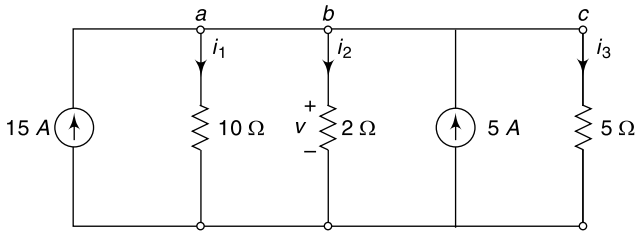

Fig. 4.30 Circuit of Ex. 4.17
4.17 In Fig. 4.30, find v . Also find the magnitudes and direction of the unknown currents through 10Ω , 2Ω and 5Ω resistors.
Applying KCL at node 'a', (Fig. 4.30),